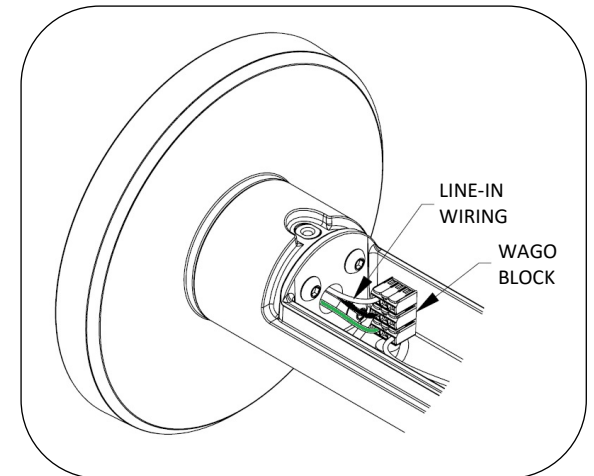

Fig. 5 – CONNECT LINE-IN WIRING
9. Connect line-in voltage wiring to wago block, see Fig. 5.